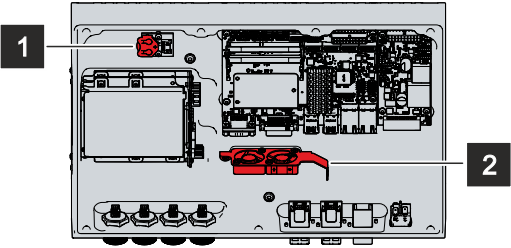

Fig. 26: CP32xx\_battery and fans
⇒ You now have access to the battery (1) and the fans (2) (see Fig. 26).